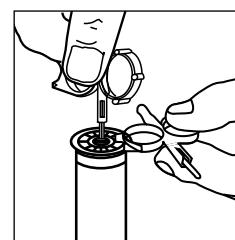

Fig. 6
1. Hold the plastic nozzle stationary by inserting the two pins on the side of a Hunter wrench between any of the nozzle spokes. (Fig. 6)